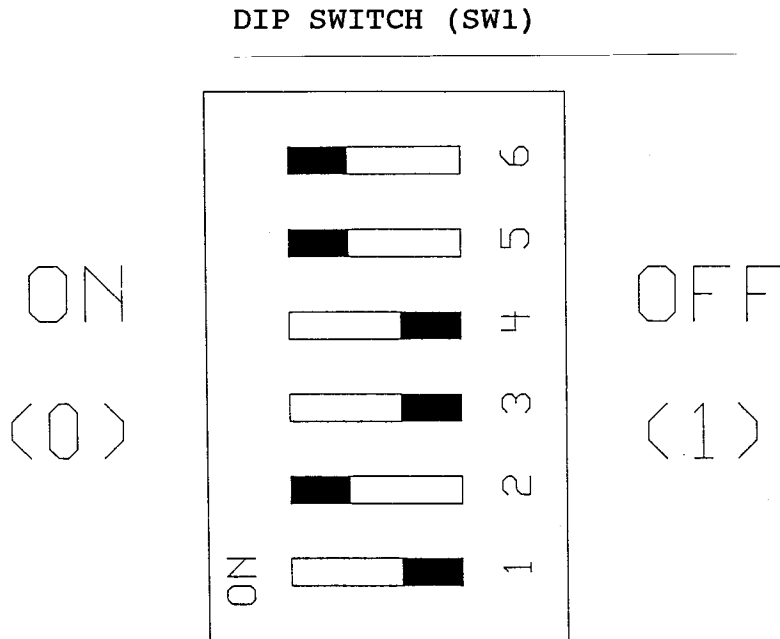

Figure 8-1
The UAI-20 uses a 6 position DIP switch (SW1) to select the decode frequency desired. Figure 8-1. By selecting different switch positions, any one of the 38 sub-audible tones can be accessed. For example, if 100Hz is desired, locate the frequency on the following program list (figure 8-2) and set the switches accordingly. Switch #1 is off (1), switch #2 is on (0), switch #3 is off (1), switch #4 is off (1), switch #5 is on (0) and switch #6 is on (0).